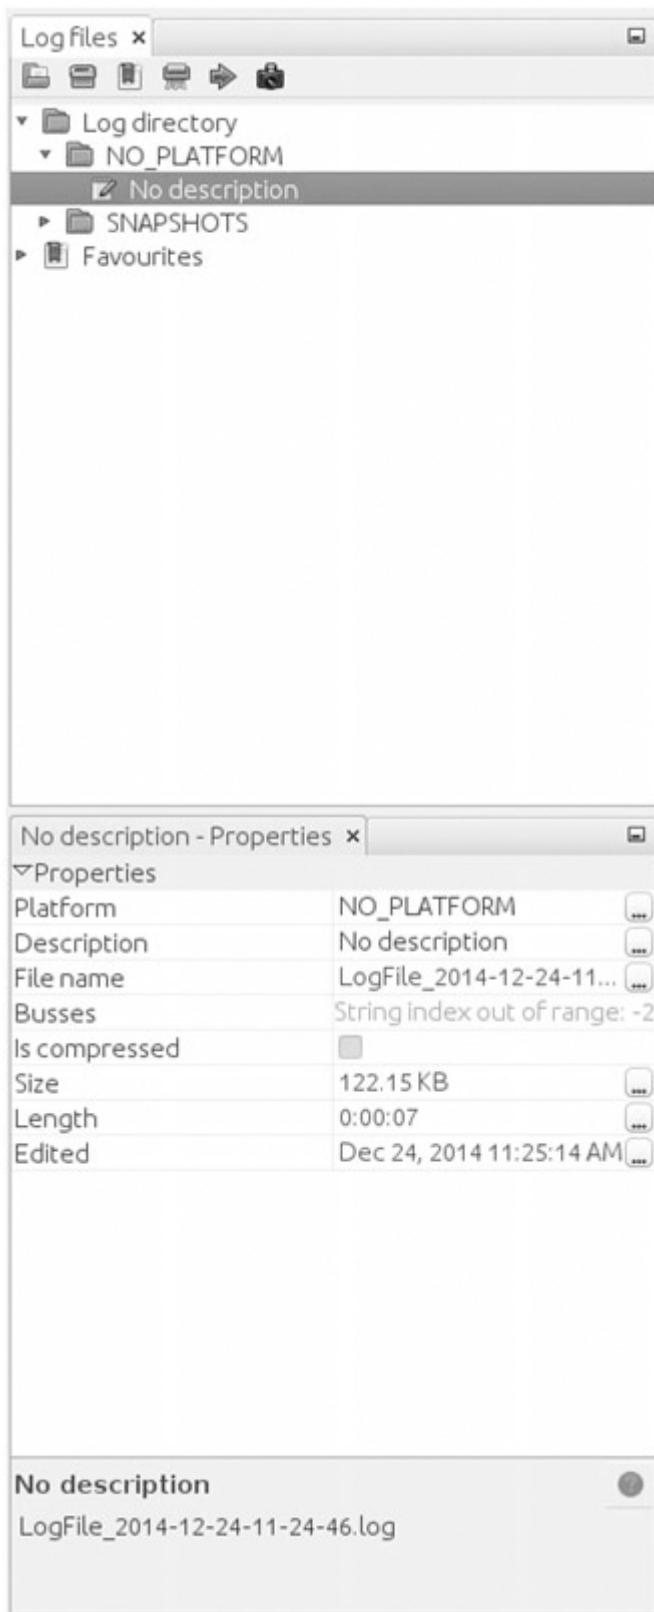

Figure 5-5: Right pane of Log files tab settings
To record CAN packets with Kayak, first click the Play button in the Log files tab ①. Then drag one or more buses from the Projects pane to the Busses field of the LogOutput Window tab ②. Press the Record and Stop buttons at the bottom of the LogOutput window ③ to start or stop recording. Once your packet capture is complete, the logging should show in the Log Directory drop-down menu (see Figure 5-5).
Other than some metadata (`PLATFORM`, `DESCRIPTION`, and `DEVICE_ALIAS`), the log is pretty much the same as the one captured by the `can-utils` package: ❶ is the timestamp, ❷ is your bus, and ❸ is your arbitration ID and data separated by a `#` symbol. To play back the capture, right-click the **Log Description** in the right panel, and open the recording (see Figure 5-5).